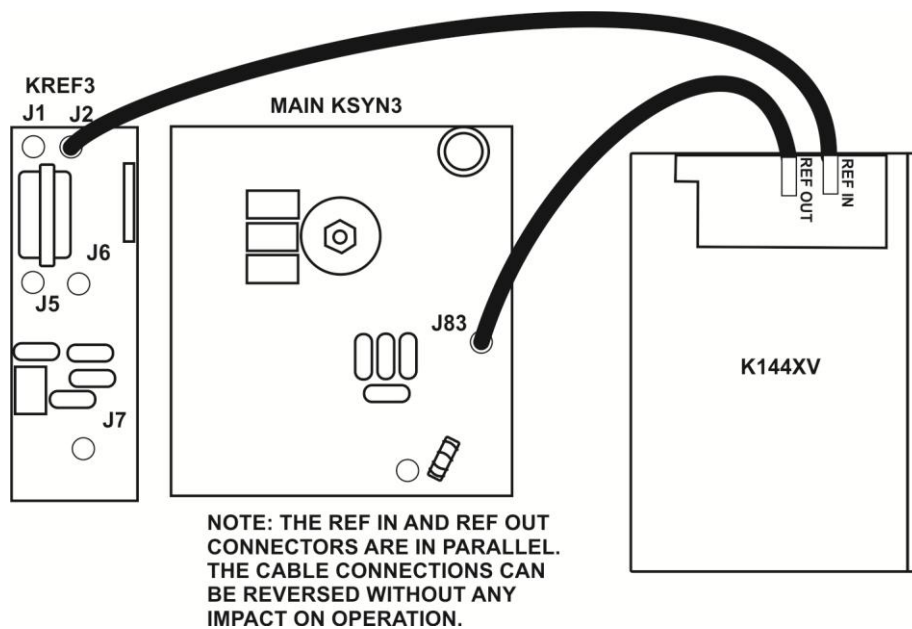

Figure 23. K144XV Ref Lock Cable Connections.
3. If the K144XV module includes the Reference Oscillator Phase Lock Option, reconnect the two coax TMP cables at the REF IN and REF OUT connectors on the K144XV module (see Figure 23). Be sure the cables have not been accidentally disconnected at the other end.